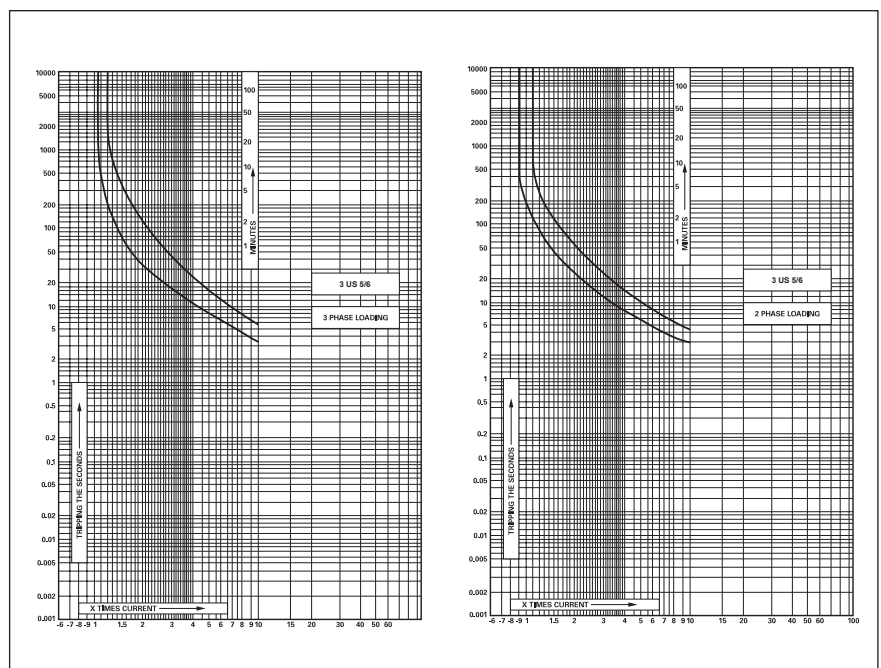

Fig. 10 Operating characteristics of 3US 5/6 relays
- Overload relay characteristics given in fig. 10 can be used to estimate the average tripping time at different multiples of set current.
The given characteristics (fig. 10) are average values of all ranges and sizes of bimetal relays and are mainly intended to indicate the inverse time current characteristics of the same. The tripping times shown are for relays starting from the cold state. At operating temperatures (heated at rated current) these are reduced to about 25% of the values obtained from the characteristics.